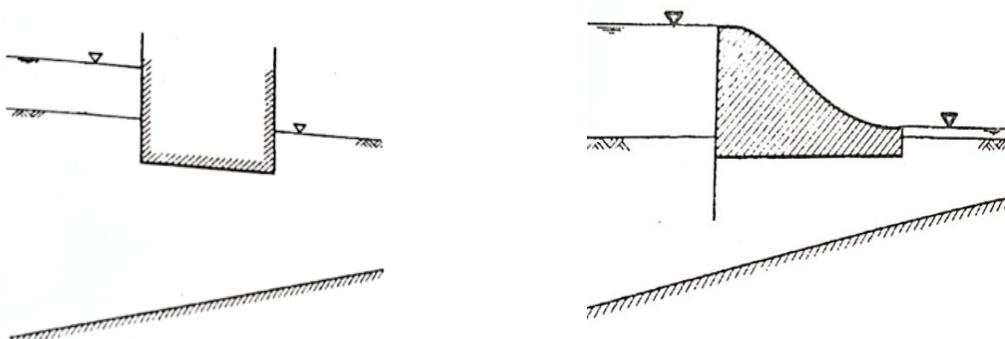

Figure A3(a)/ Rajah A3(a)
- (a) Sketch the flow net for the seepage under or through the dam containing equipotential lines, N_e and flow lines N_f based on **Figure A3(a)**.